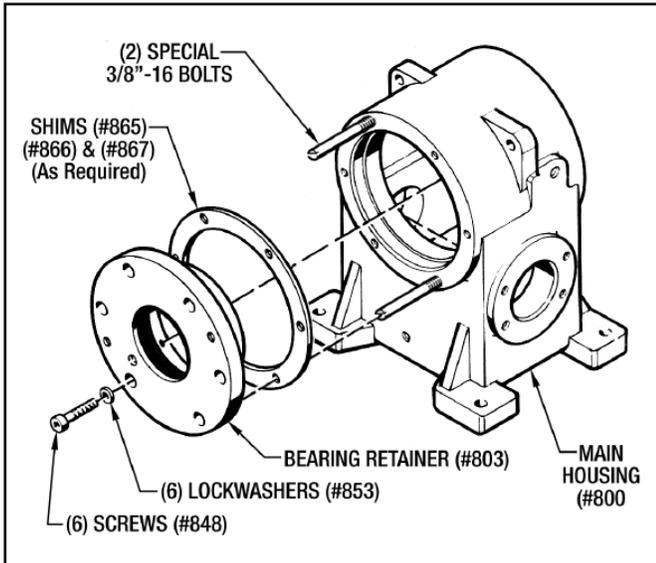

Figure 9.7 - Attaching Bearing Retainer (#803) & Shims
1. Insert the (2) 3/8"-16 Guide Pin Bolts into one side of the gear box 180° apart as shown in Figure 9.7.